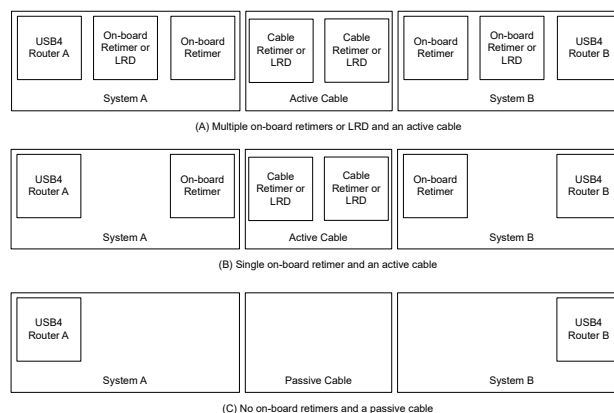

Figure 35. Possible System and cable uses cases
- (1) USB4 Gen2 supports up to 2m of USB-C passive cable. USB4 Gen3 and USB4 support up to 0.8m of passive USB-C cable.
In some cases, the insertion loss between router and USB-C receptacle is too large and a signal conditioner, called a retimer (RT), is needed to overcome the deficiency. The USB4 specification allows up to two retimers between the router and the USB-C receptacle. Instead of a second retimer, the USB4 specification allows the use of a linear redriver (LRD) between the router and retimer near USB-C receptacle. A few examples of different use cases are shown in **Figure 35**.